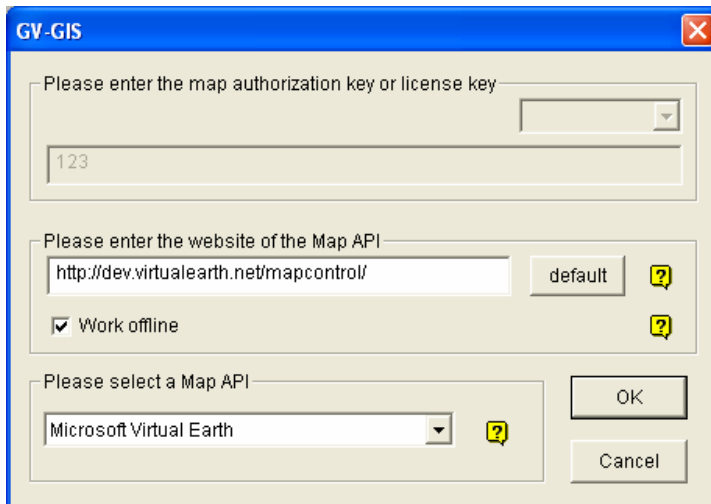

Figure 4-55
1. If you like to use the maps created yourself, overwrite the files at :GV folder\GIShtm-User, and select **User Defined** from the “Please Select a Map API” drop-down list (Figure 4-55).